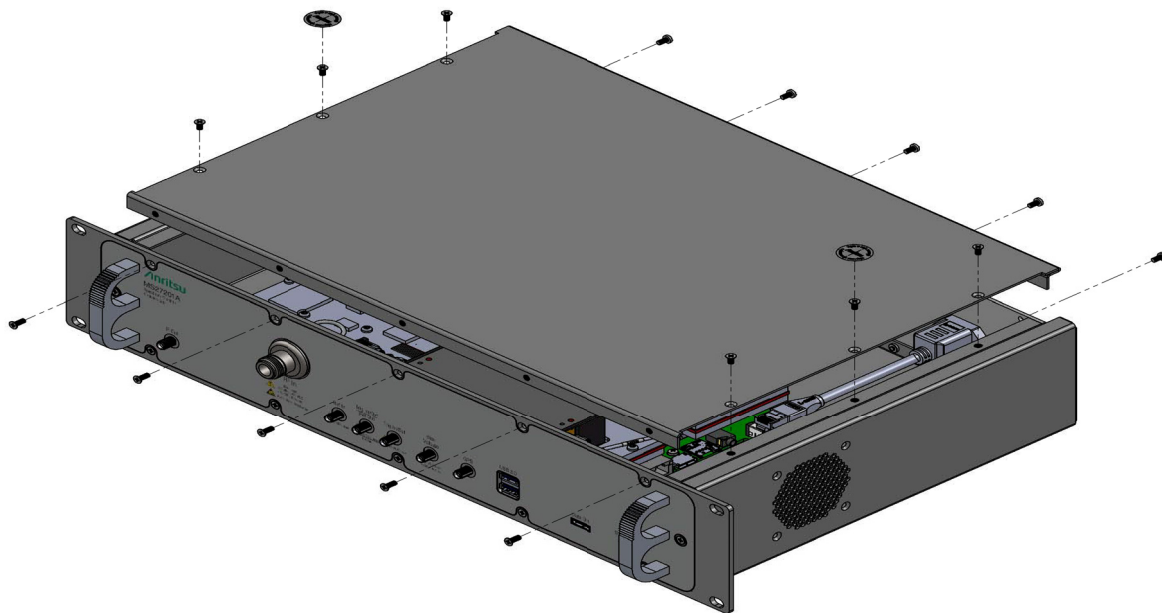

Figure 3-1. Location of 16 Cover Screws
2. Remove the 16 screws securing the top cover to remove the top cover. See Figure 3-1.